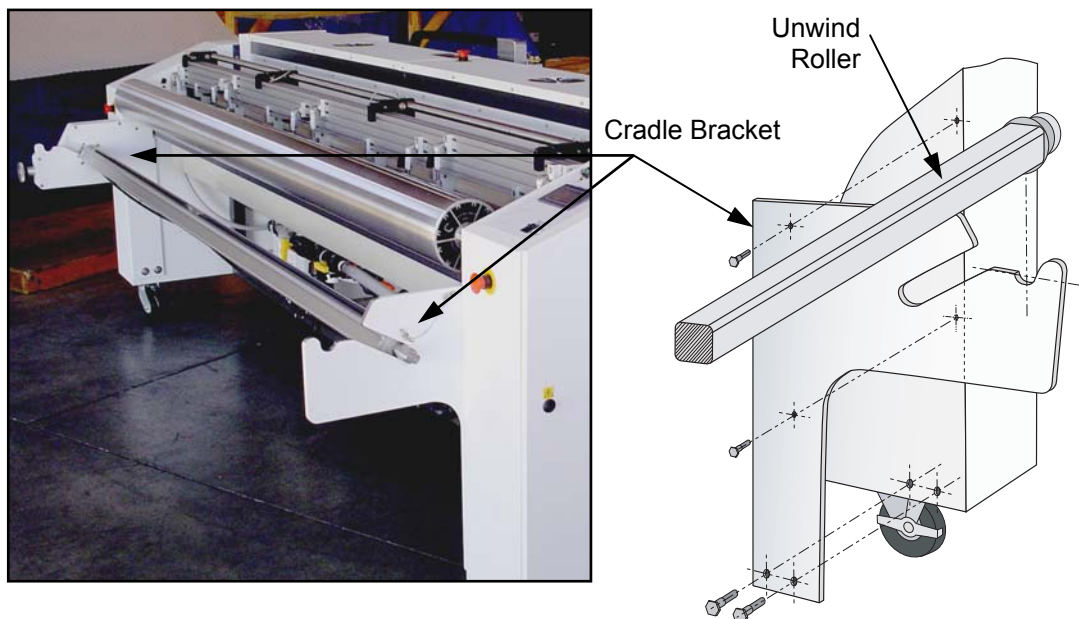

Figure 15: Cradle Bracket and Unwind Roller Installation
- Bolt the Cradle Brackets to both sides of the unit with hardware provided and install the Unwind Roller (see Figure 15 - below).